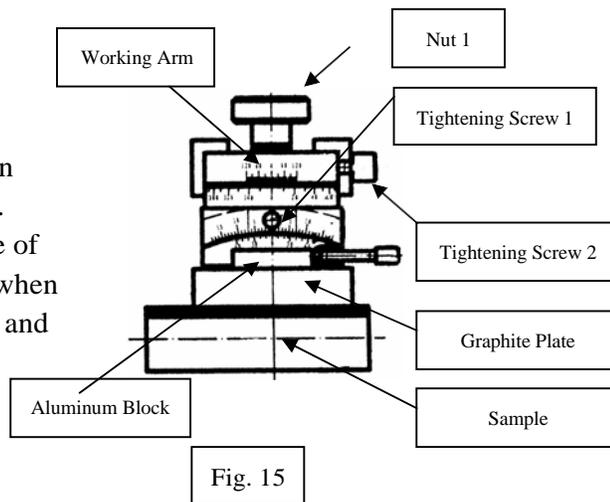

Fig. 15
6.1.4. Two-dimension Clamp Adjustment: See Fig. 15. Adjust the angle of the two-dimension clamp when loosening tightening screw 1. Adjust the horizontal angle of the two-dimension clamp when loosening tightening screw 2 and nut 1.